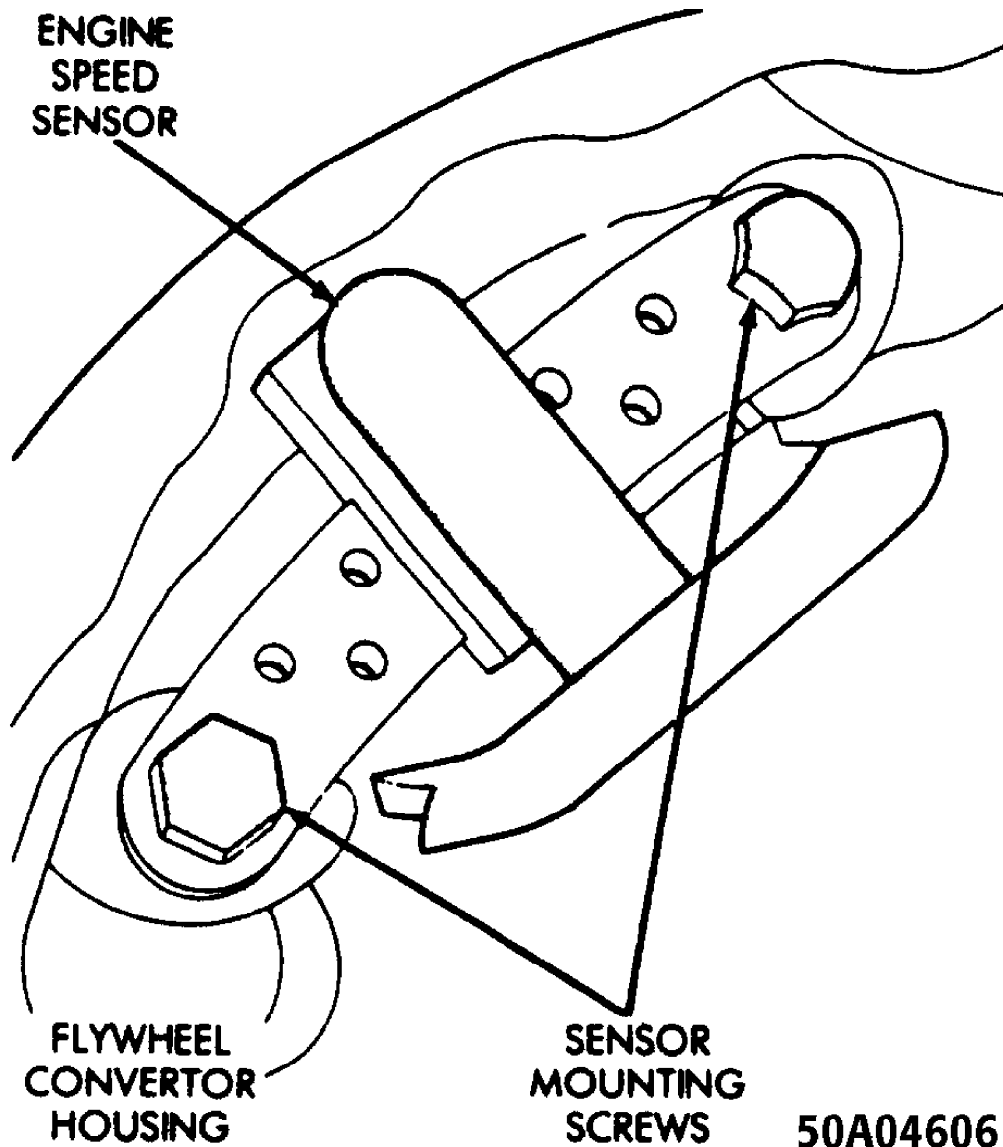

Fig. 21: Engine Speed Sensor Mounting Bolts
- 1) Remove engine speed sensor wire connector. See Fig. 21.